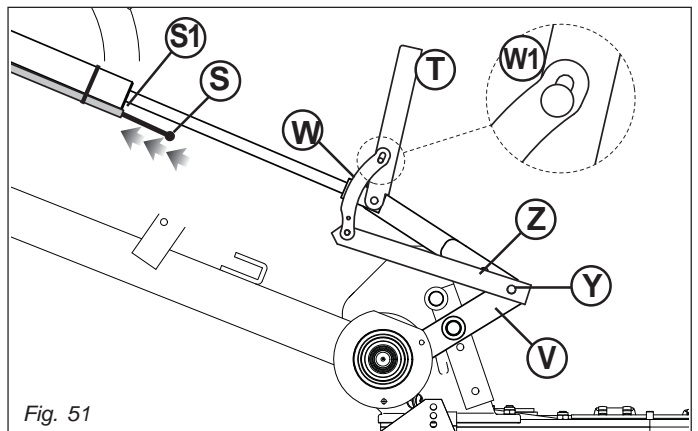

Fig. 51
- 1) Move the lever mechanisms (V and Z, Fig. 51) to position (Y).
- 2) Lift the bracket (T) as shown in Figure 42, and lock it with the rod (W) in the lower position of the slot (ref. W1, Fig. 51).
- 3) To avoid unpleasant problems during movement of the cutter bar, detach the steel cable (S) from the rod (W) and retrieve it up to position (S1) .